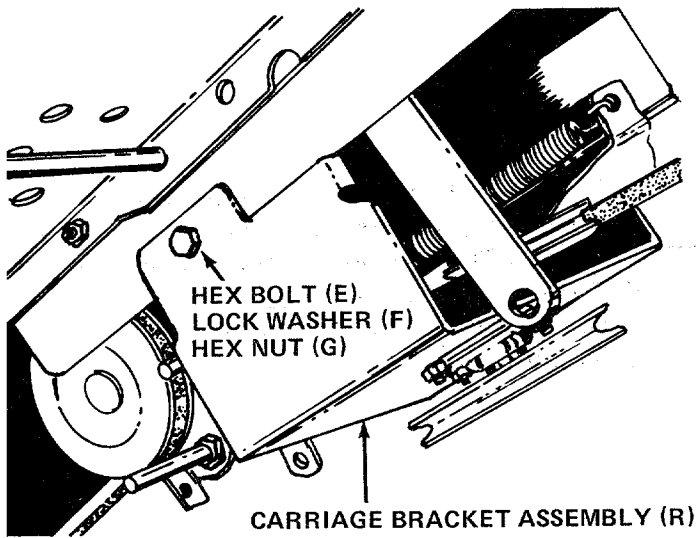

FIGURE 7
12. Place carriage bracket assembly (R) in position beneath the running board support rod on the tractor. Secure each side of carriage bracket to frame with hex bolts (E), lock washers (F) and hex nuts (G). Tighten securely. See figure 7.